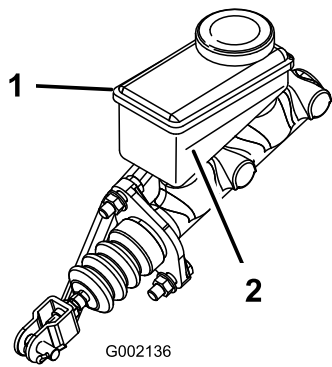

Figure 67
5. Look at the outline of the fluid level at the side of the reservoir (Figure 67).
- B. Add DOT 3 brake fluid to the reservoir until the fluid level is above the Minimum line (Figure 67).